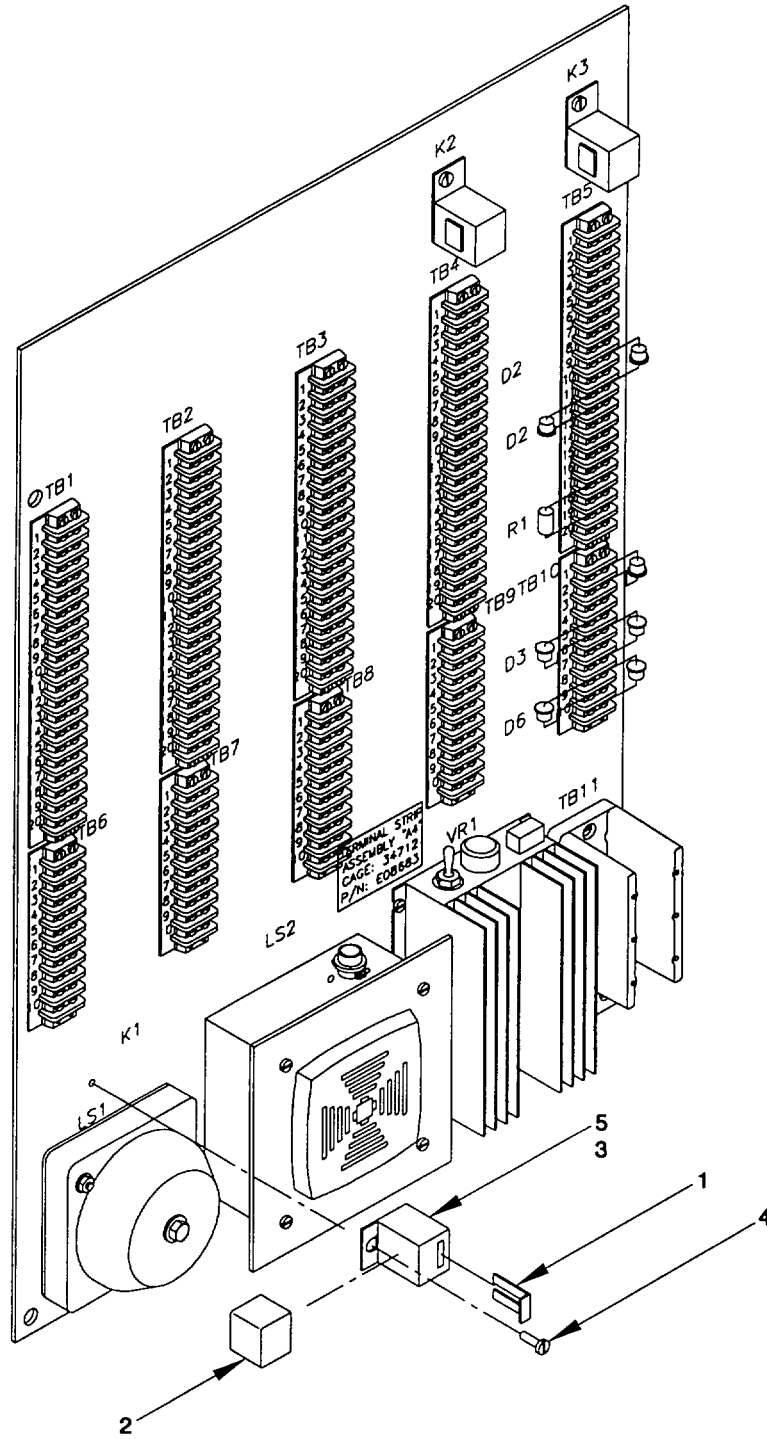

Figure 2-137. Typical Relay, Terminal Strip "A4", Remove/Install.
a. Remove. (figure 2-137)
- (1) Unlatch relay retainer (1) and remove relay (2) from the relay socket (3).
- (2) To remove the relay socket (3) and terminals (5), remove the round head screw (4).
b. Install. (figure 2-137)
- (1) Apply antiseize compound to screws (4). Position relay socket (3) and terminals (5) and secure with round head screw (4).
- (2) Position relay (2) on relay socket (3) and latch relay retainer (1).